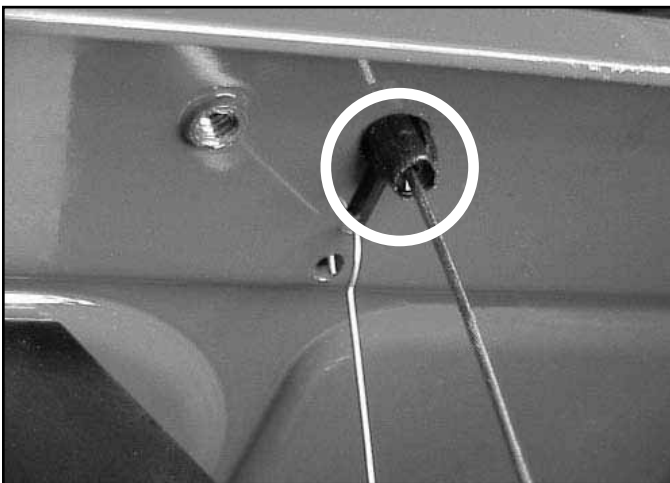

Fig 052
4. Reach under the shift plate and compress the small ears on the cable fitting (Fig. 052). The cable fitting can then be pushed out of the shift plate.